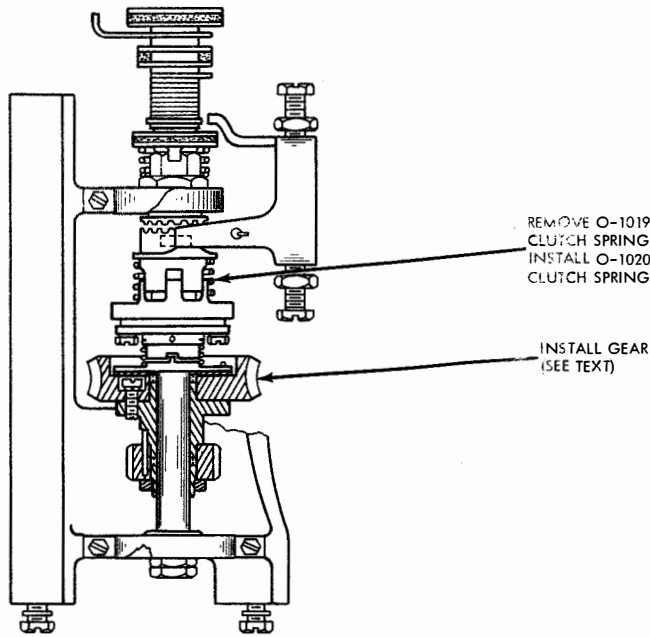

Figure 3-15. Change Required in Main Shaft for 100 WPM (Experimental) Operation
1. Install the gear listed in paragraph (b) above in place of the O-1186 (35T) or O-1007 (30T) gear. Install the pinion in place of the O-605 (7T) or O-711 (7T) pinion (60 wpm). See figures 3-15 and 3-16.